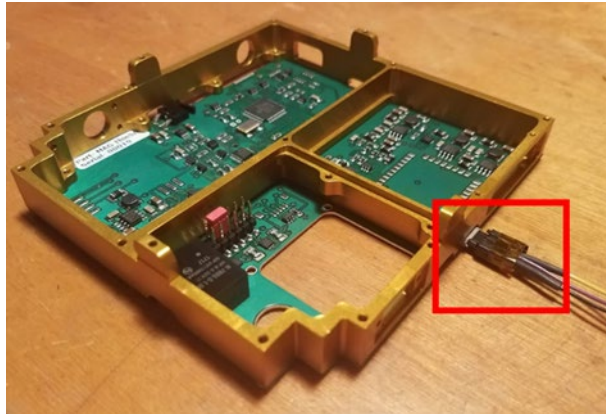

Figure 4 Picture of included cable properly connected to the ThinSat NSL Diagnostic Port.
- 5.2 The only provided method to read data from the ThinSat Bus is through the NSL Diagnostic Port (See Figure 4). This is a read only port. The EM does not include any additional diagnostic ports that connect to your payload. However, you should have your own diagnostic connector, using the suggested payload diagnostic port.
- 7.4.1 Located on the +X face, resembling an Android phone charger (See Figure 4).